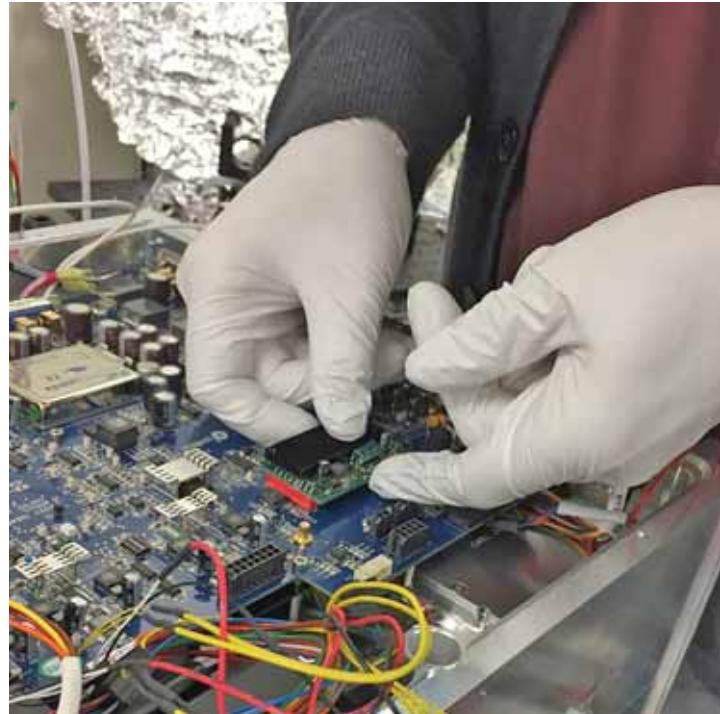

Figure 4.4-7. Removing the Motor Driver Board
17. Remove the motor driver board. Put it into an anti-static bag. See Figure 4.4-7 below.